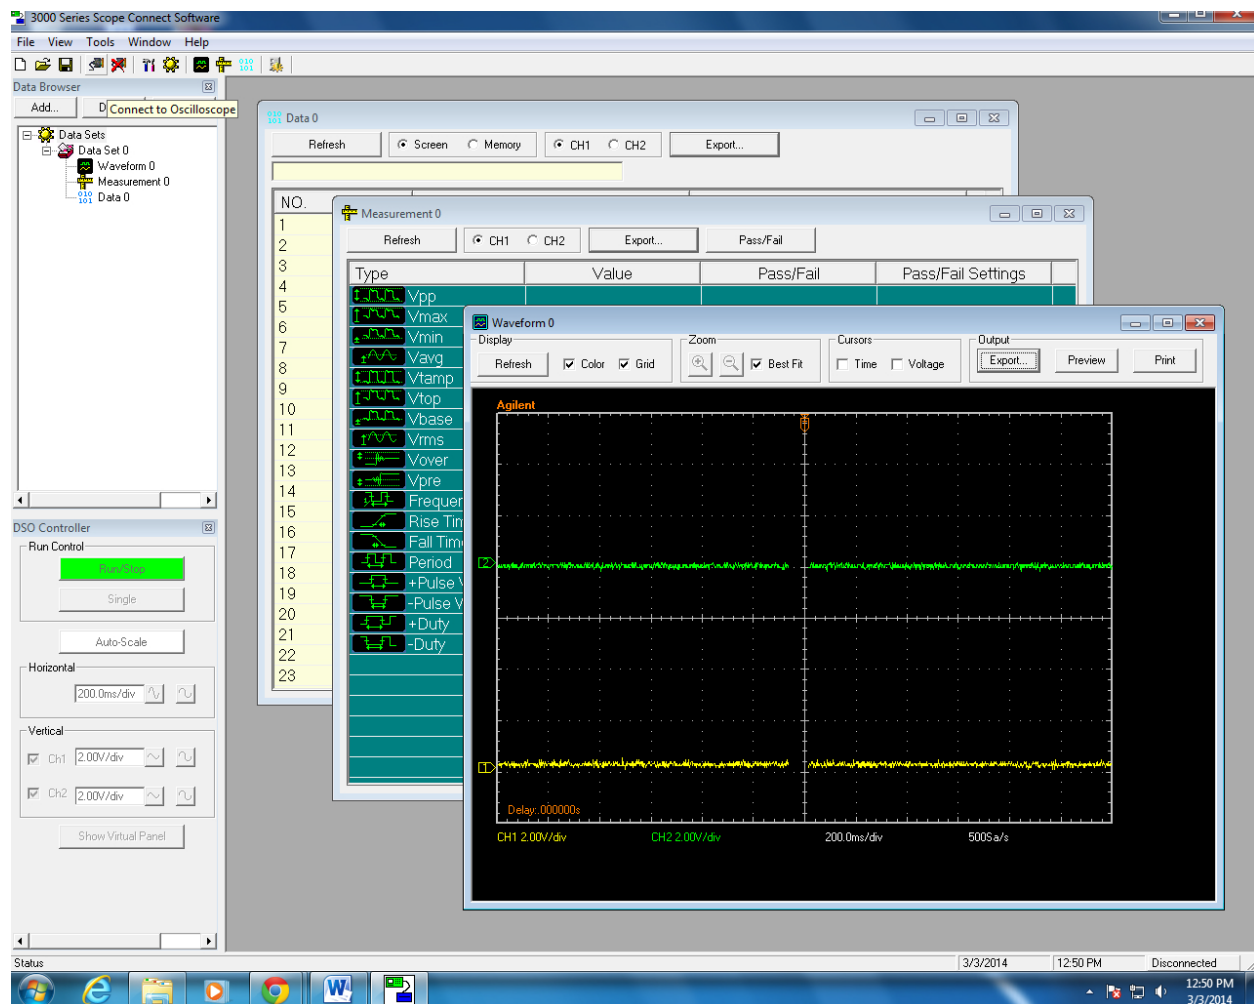

Figure 7.6 Scope Connect Software window.
3. Open the DSO3000 application. You will see three windows Waveform 0, Data 0 and Measurement 0. as shown in Figure 7.6
4. Click on the 'connect to oscilloscope' icon (see Figure 7.6), top left button. The oscilloscope should now be connected to the computer.